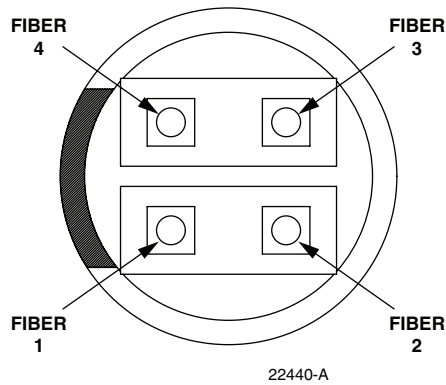

Figure 7. Fiber Locations
- **Note:** Observe the fiber numbers and their positions in the quad cable connector. See Figure 7. The fibers at the other end of the fiber cable are numbered with the same numbering scheme.